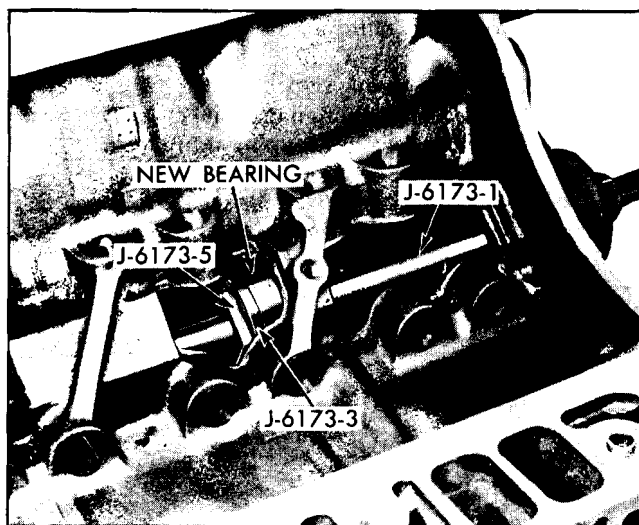

Fig. 6-134 Installing Camshaft Bearing
- d. Position replacer adapter J 6173-3, with bearing in position against shoulder, against rear of hole in which bearing is to be installed (Fig. 6-134). Index mark on shoulder of replacer must point down (toward crankshaft side) to properly position bearing.
- f. Slip key J 6173-5 into notches in shaft behind replacer adapter J 6173-3 and tighten nut to start bearing into hole (Fig. 6-134). Continue to tighten nut until bearing has been pulled completely into its hole. When properly positioned, it will be approximately flush with both sides of the transverse member.